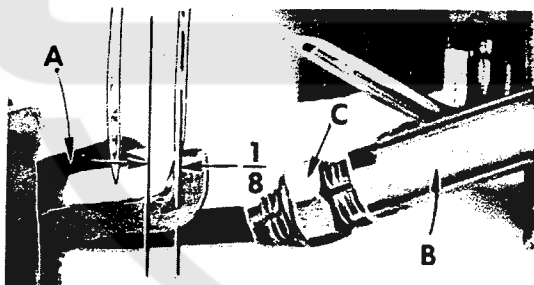

Fig. 4
Insert the lower spreader (A, Fig. 4) into bar (B). With lower spreader at left end of its stroke, set spreader point $\frac{1}{8}$ inch from center-line of right needle (Fig. 4) using gauge No. 21225- $\frac{1}{8}$. Do not have lower spreader deflecting needle. Do not lock nut (C) because the spreader point will have to be set to the needle scarf after the rear needle guard has been assembled and positioned. (See paragraph under "Final Setting of Lower Spreader").
is obtained by rocking the spreader forward or backward around its shank. Recheck the $\frac{1}{8}$ inch spreader gauge setting and tighten nut (C, Fig. 4).